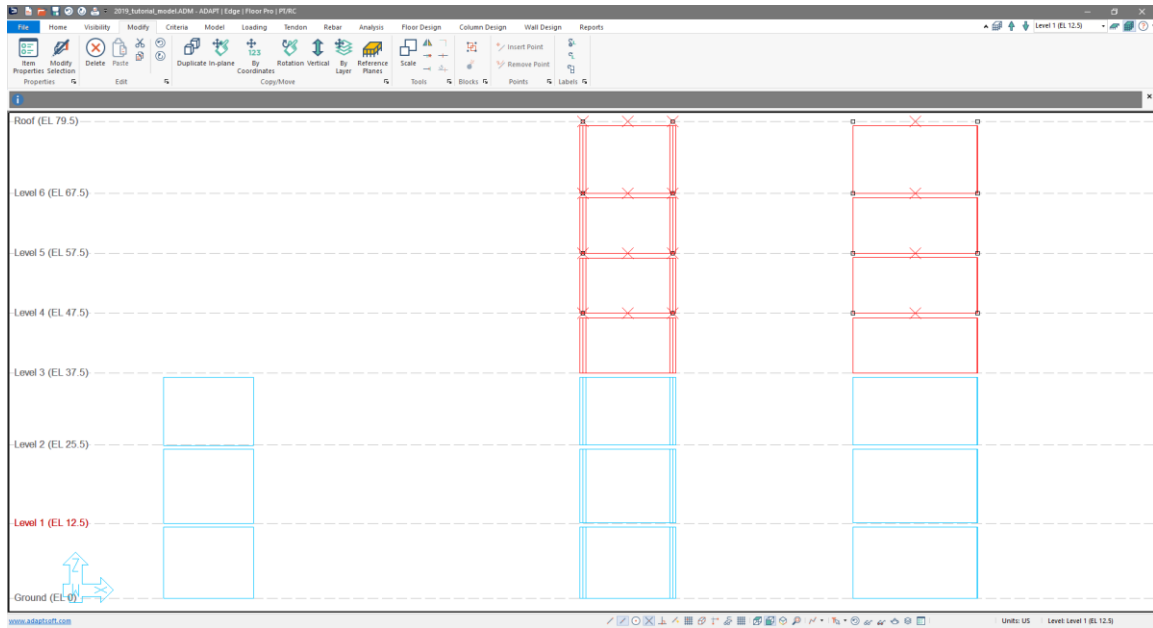

Figure 8-9
- Drag and select the walls above the Level 3 reference plane. Once they are selected your screen should resemble **FIGURE 8-9**.